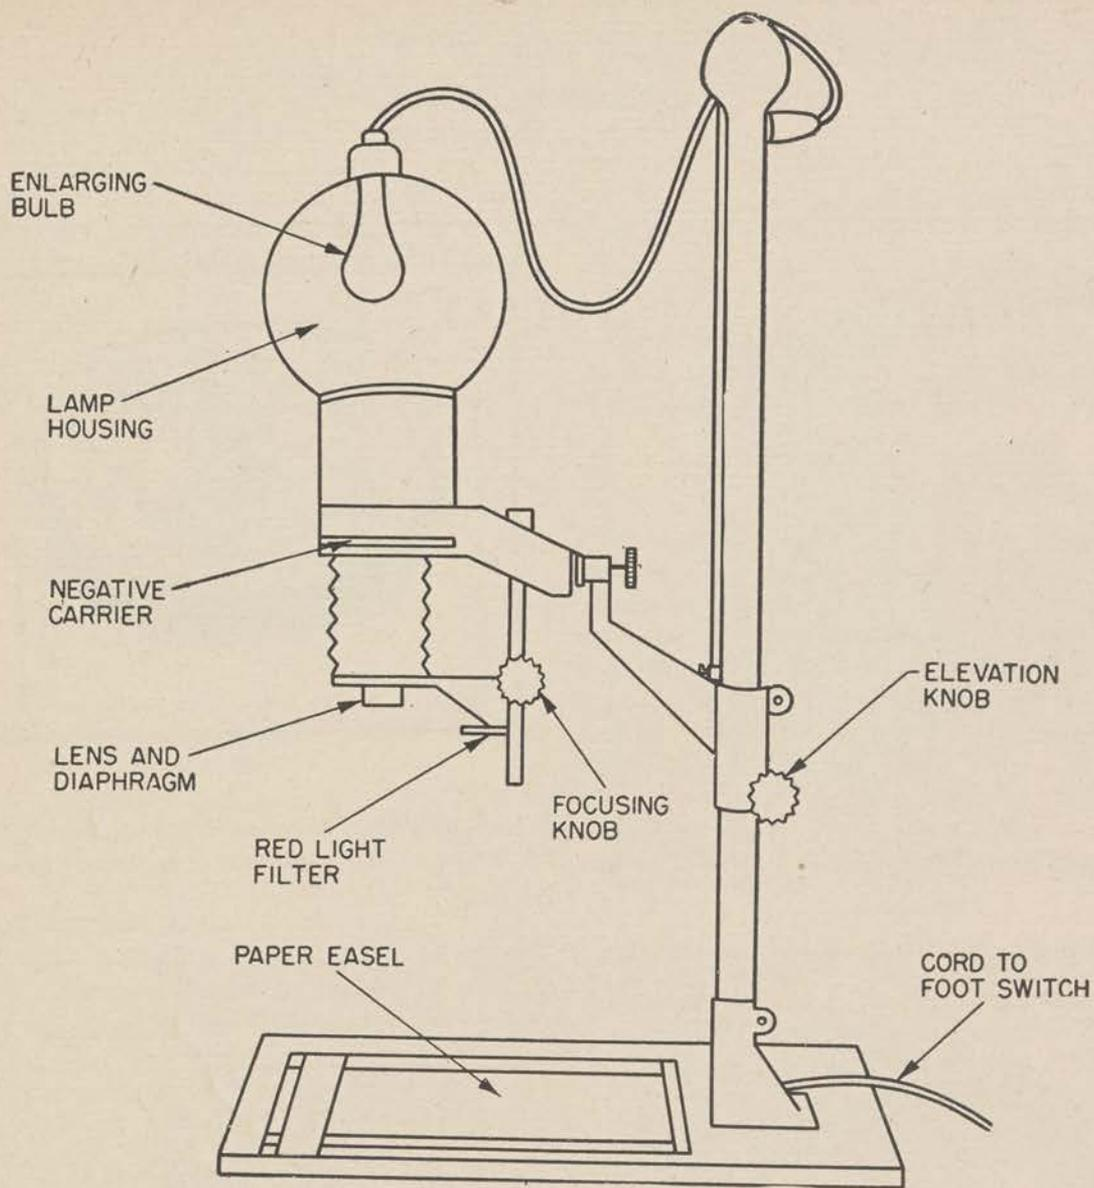

Figure 276.
a. The developing, fixing, and washing of enlarged prints made by projection are the same as those processes for contact prints. The difference between the two lies entirely in the method of making the exposure. A typical enlarger is shown (fig. 276).